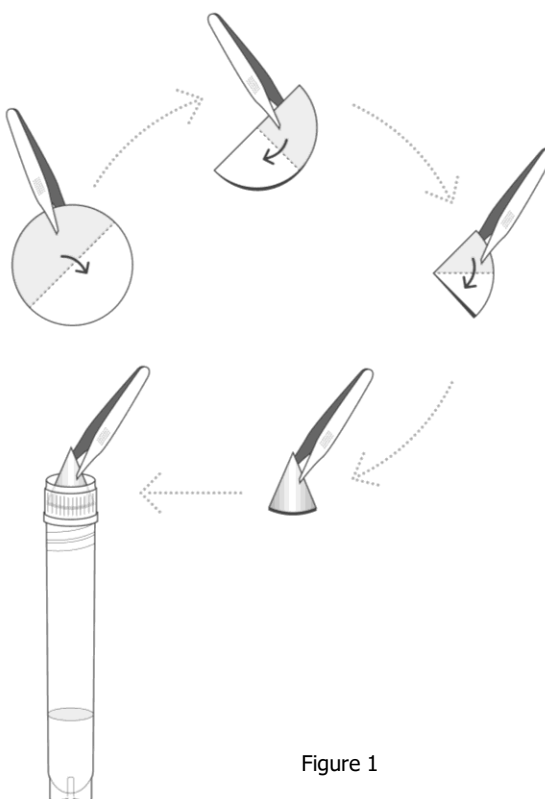

Figure 1
1. Using the sterile tweezers fold the filter in two, three times in order to obtain a cone, as shown in Figure 1.
Note: the membrane filter must be insert in the vial with the point of the cone oriented to the top of Cryotube™ vial (Figure 1).